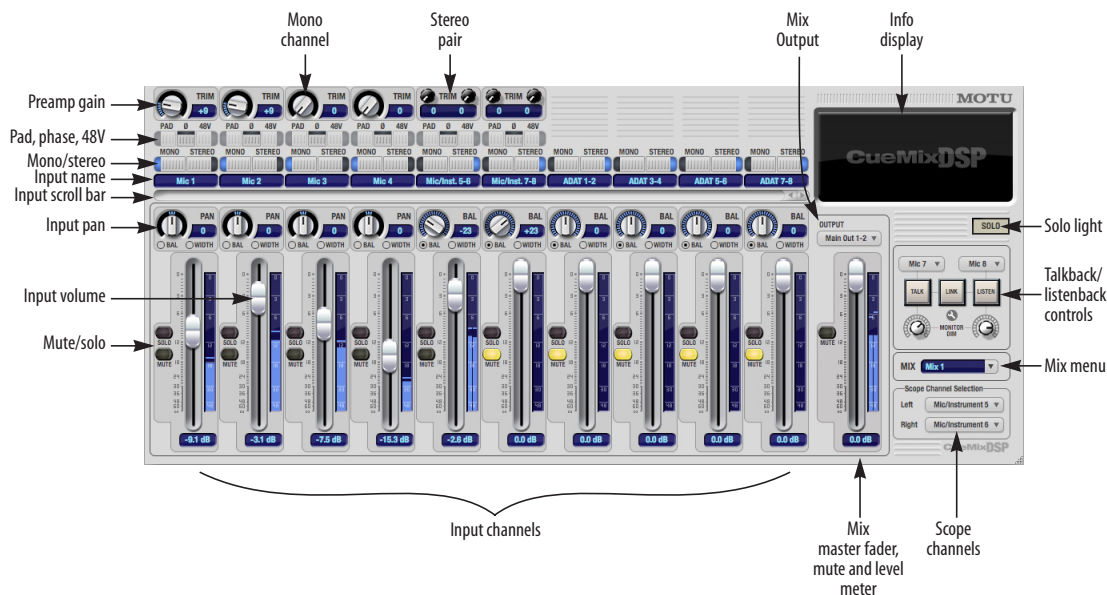

Figure 9-1: MOTU CueMix FX is a virtual mixer that gives you control over the 8pre USB's on-board mixing features.
CueMix FX displays one mix at a time. To select which mix you are viewing, choose it from the Mix menu, as shown in Figure 9-1. Double-click the name to change it.
To view a mix, choose it from the Mix menu, as shown in Figure 9-1. The menu shows all mixes by name, followed by the audio interface's output pair that it corresponds to.
The master fader (Figure 9-1) controls the overall level of the mix (its volume on its stereo output). Use the individual input faders to the left to control individual input levels.
The master mute button (next to the master fader) (Figure 9-1) temporarily disables (silences) the currently displayed mix.
Click the *Phase* button (Figure 9-1) to invert the phase of the input signal. For stereo pairs, you can invert the phase for the left and right channels independently: click the phase button (ø) repeatedly to cycle among two states for mono channels (on or off) and four states for stereo grouped channels (no inversion, left only, both, or right only).
Click the *Mono* button (Figure 9-1) if you would like an input to be treated as a mono channel. If you would like to work with it as one channel of a linked stereo pair, click the *Stereo* button. Inputs are grouped in odd/even pairs (mic 1-2, Analog 1-2, 3-4, etc.) Stereo pairs appear as a single channel strip in the CueMix FX mixer.
Click the input name (Figure 9-1) to edit the name. Input names are global across all mixes. This name also appears in host audio software on the computer (if the software supports channel names).
The input pan knob (Figure 9-1) pans the input across the bus stereo outputs. All input pan settings belong to the mix currently being viewed.
Use the input fader (Figure 9-1) to adjust the input volume in the mix. Note that an input can have different level, pan, mute and solo settings for each mix. Input channel level meters are post-fader.
To add an input to a mix, or remove it, click its MUTE button. To solo it, use its SOLO button. The Solo light (Figure 9-1) illuminates when any input is soloed (including inputs that may currently be scrolled off-screen).
The *Scope channel selection* menus (Figure 9-1 on page 50) let you choose what input channels will be fed to the CueMix FX audio analysis (scoping) features. See “Devices menu” on page 54.
- 1 Select the source mix (Figure 9-1) and choose Copy from the Edit menu (or press Command-C).
The *Scope channel selection* menus (Figure 9-1 on page 50) let you choose what input channels will be fed to the CueMix FX audio analysis (scoping) features described in the following sections.